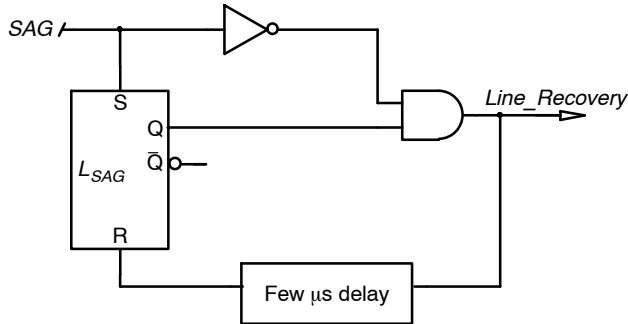

Figure 20. “Line_Recovery” Signal
- When the soft-stop sequence ends, the PFC stops operating until the T_{BUV} delay has elapsed (515 ms typically). However, if the BUV protection trips during a line sag condition, the T_{BUV} delay is bypassed and operation immediately resumes when the line recovers. The wakeup information is provided by signal “Line_Recovery” generated by the line-sag block (see Figure 20). This enables a rapid operation recovery when the line fault is over.
When a line-sag condition is detected, the NCP1618 starts a soft-stop sequence to gradually discharge $V_{CONTROL}$ down-to-zero and hence, to smoothly stop operation. It also disables the CCM mode to reduce more rapidly the power delivery during the line-sag period. When the line recovers, it is required to restart the operation as soon as possible and in a clean manner. Signal “Line_Recovery” of Figure 20 provides the wakeup information.